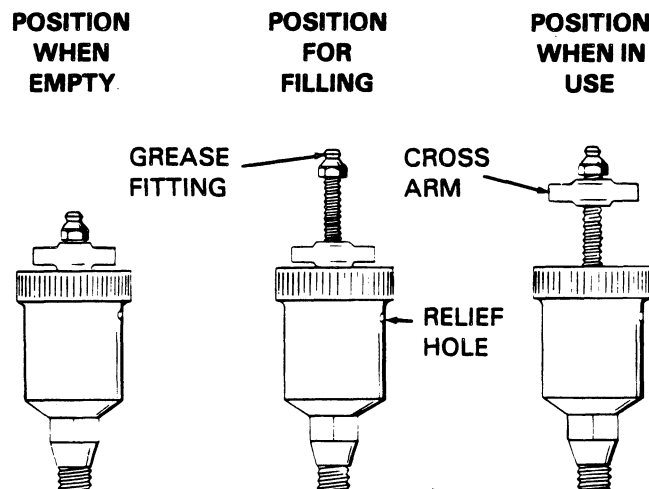

Figure 5. Automatic Lubricating Grease Cup
Before removing the seal assembly, turn the cross arm on the seal grease cup (14) clockwise until it rests against the cover (see figure 5). This will prevent the grease in the cup from escaping after the seal is removed.
Before starting the pump, fill the grease cup through the grease fitting with lithium base No. 2 pressure gun grease until grease escapes from the relief hole. Turn the grease cup arm counterclockwise until it is at the top of the stem; this will release the spring to apply grease to the seal (see figure 5).